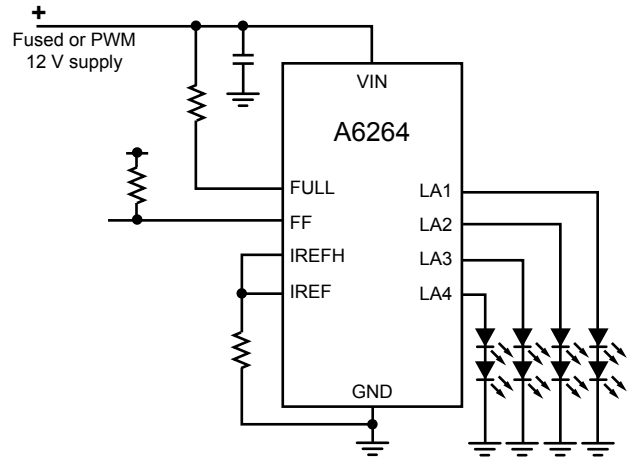

Figure 9. Incandescent lamp replacement.
- Figure 9 shows the A6264 driving LEDs in a low voltage incandescent lamp replacement. In such replacement applications the supply may be provided by a PWM-driven, high-side switch. The A6264 can be used in this application by applying the PWM supply directly to VIN. When power is applied there will be a short startup delay, t_{ON} , before the current starts to rise. The current rise time will be limited by the internal current slew rate control. In this example the A6264 is operating with FULL high and with a fault output.